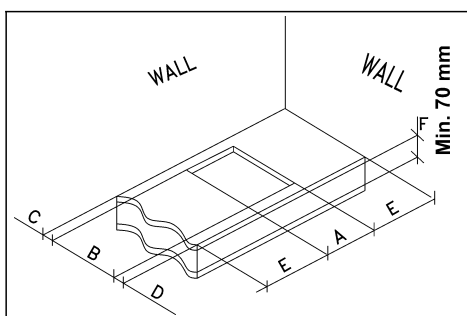
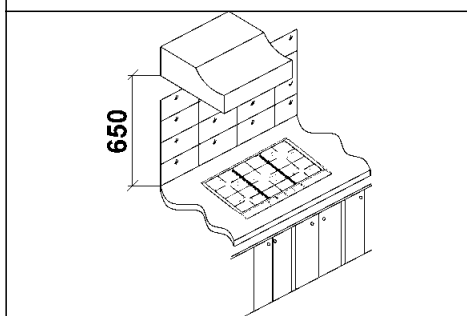

FIG. 3
FIG. 4
The measurements of the opening made in the top of the modular cabinet and into which the hot plate will be installed are indicated in either fig. 3, comply with the measurements given for the hole into which the appliance will be recessed (see fig. 4).
If a wood is installed above the hob, please look at the hood manufacturer instructions regarding the minimum distance between hood and hob (fig. 4).
- Since the casing of the hob may overheat due to a prolonged use, it is necessary to insert a separation plane wood, blocked by screws, which must be installed under the cooktop at a minimum distance of 70 mm from the top, as shown in fig.3.